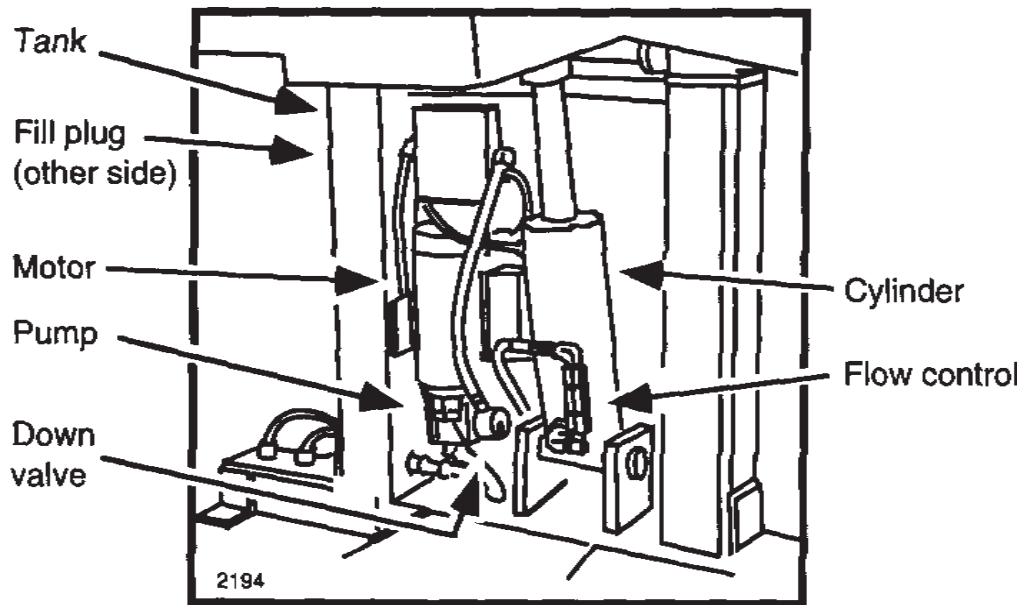

Fig. 13. Parts Identification - Base of unit (viewed from front)
1. The check valve may be leaking. Dirt on the valve seat can prevent the valve from closing fully. The check valve is mounted in the base of the pump housing, as shown in Fig. 13. Remove the check valve cap and inspect the valve for dirt or metal chips which may be preventing it from closing. You may be able to restore the seal by lightly rapping the ball into the seat using a 1/4" diameter rod and a small hammer.